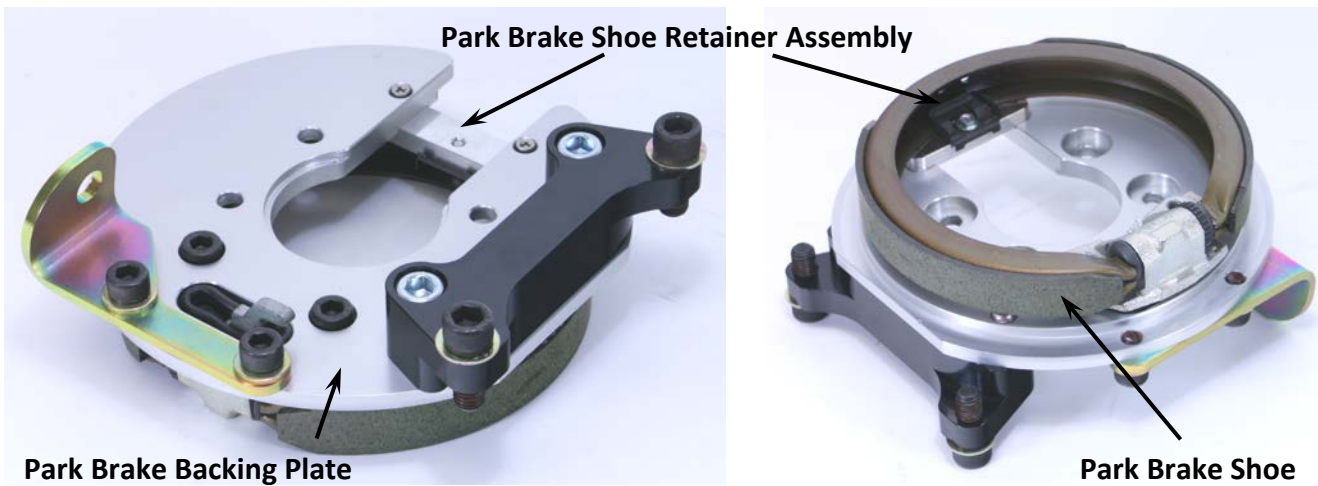

Figure 1 – Banksia Park Brake Assembly
7. To begin installation, it is first necessary to disassemble the Banksia park brake assembly for installation onto the rear axle. Remove the Allen screws holding the retainer assembly from the park bracket backing plate. Once the screws are removed, slide the clip from the park brake shoe. For reference, see Figure 1. **NOTE:** It is not necessary to remove the intermediate caliper mounting bracket from the backing plate.